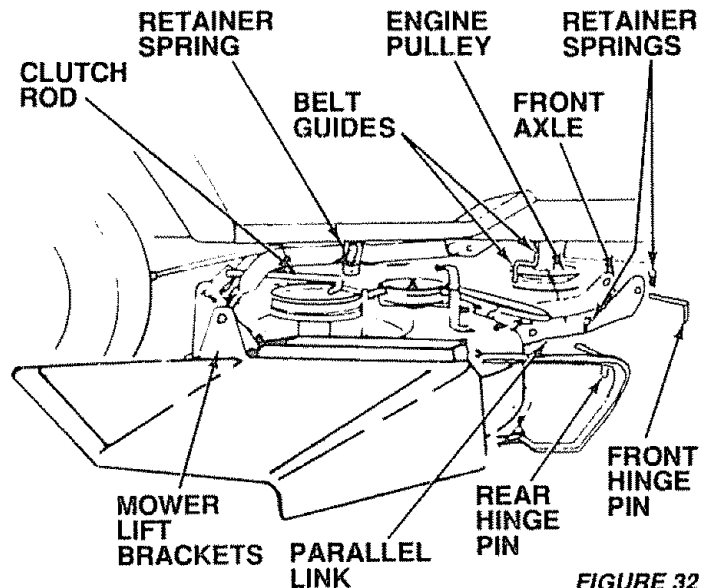

FIGURE 32
- Install front hinge pin through axle and parallel link (Fig. 32). Secure with retainer spring
- Install rear hinge pin through mower lift brackets and parallel link (Fig. 32). Secure with retainer spring.
- Install clutch rod in clutch lever (Fig. 32).
- Roll belt over engine pulley. Make sure belt is inside belt guides (Fig. 32). See belt drive schematic decal on mower housing